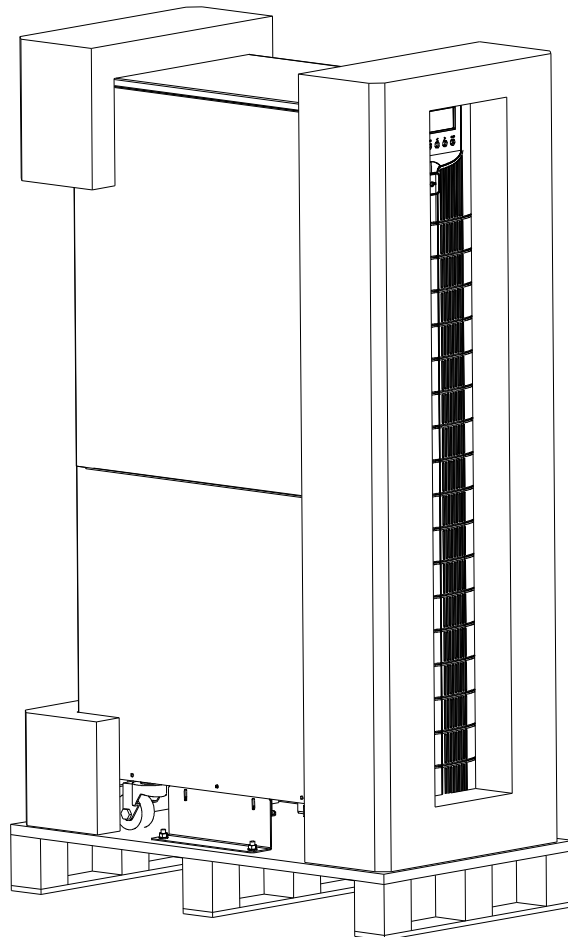

Fig.3-6 Disassemble the case
3. Unpack the package (see Fig.3-6).